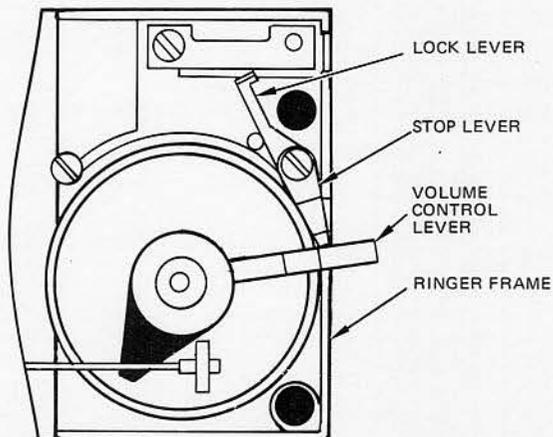

Figure 4: Stop Lever in Silent Ringer Position
8.01 Ringer volume is controlled by moving the volume control lever on the side of the ringer frame. (See Figure 4.) An indicating arrow for increasing the loudness of the ringing is stamped in ink on the ringer frame.